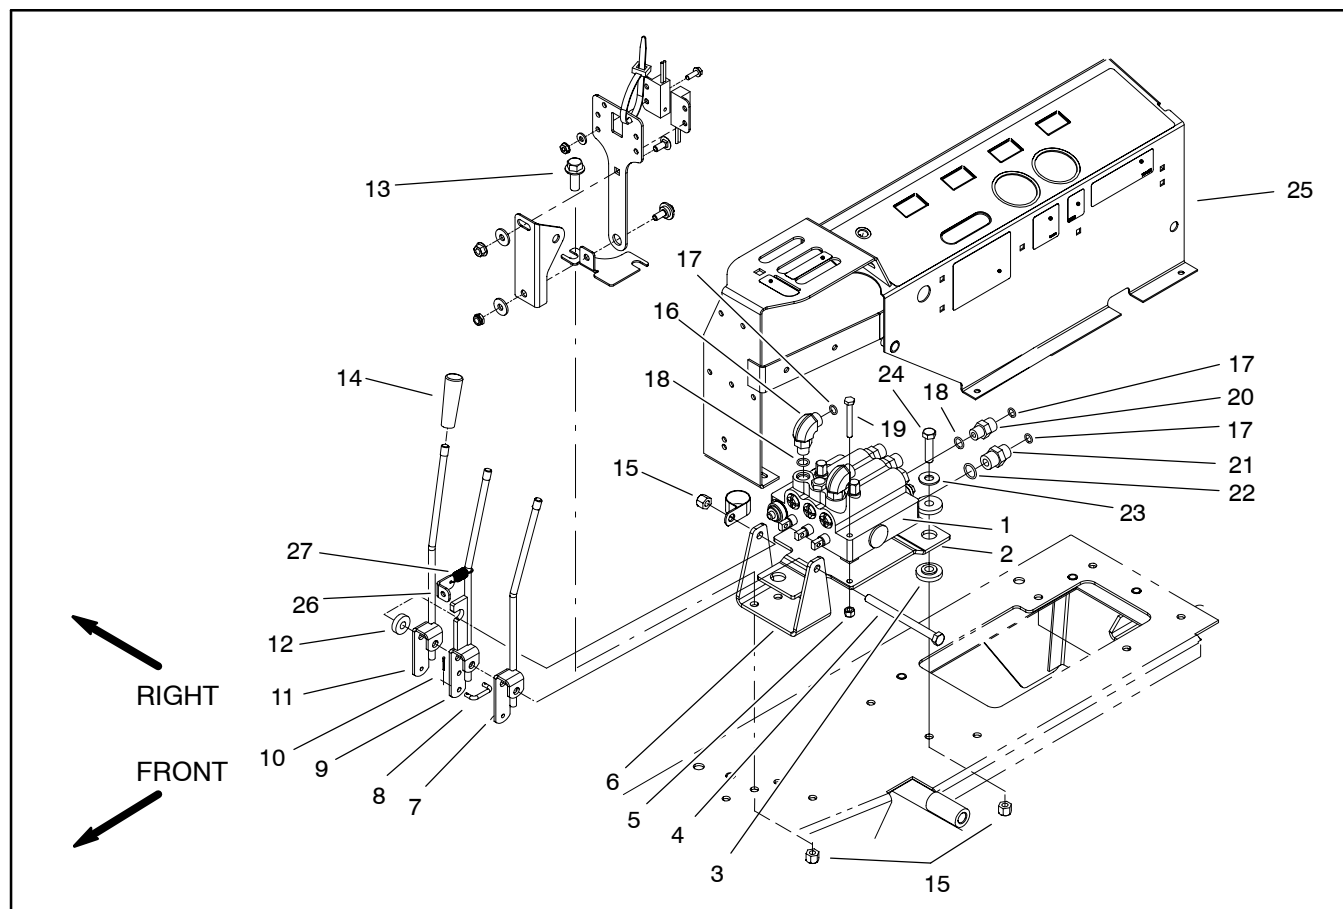

Figure 73
4. Remove lift/lower control valve using Figure 73 as a guide.
1. Install lift/lower control valve using Figure 73 as a guide.